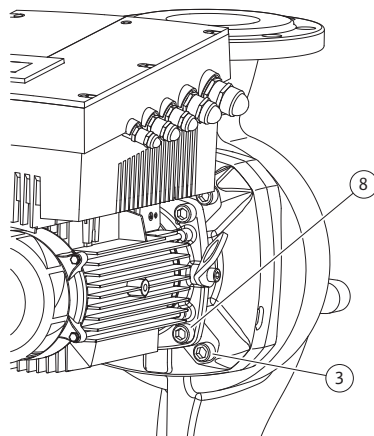

Fig. 49: Optional fixation of the motor impeller unit
11. Loosen and remove the screws (Fig. 7, Item 3). Use the outer screws (Fig. 49, Item 3) depending on the pump type. The motor impeller unit (see Fig. 13) remains securely in the pump housing after the removal of the screws; there is no danger of tipping even if the motor shaft is horizontal.
16. Depending on the pump type, loosen the screws (Fig. 7, Item 10) or alternatively, the screws (Fig. 49, Item 8).
22. Carefully push the lantern over the shaft and position it in the old position or another desired angular position to the motor flange. Observe the permitted installation positions of the components when doing this (see chapter 7.1 "Permitted installation positions and change of the arrangement of components before the installation" on page 83). Attach the lantern with the screws (Fig. 7, Item 10) **or** – for the pump/lantern types in accordance with (Fig. 49) – with the screws (Fig. 49, Item 8) at the motor flange.